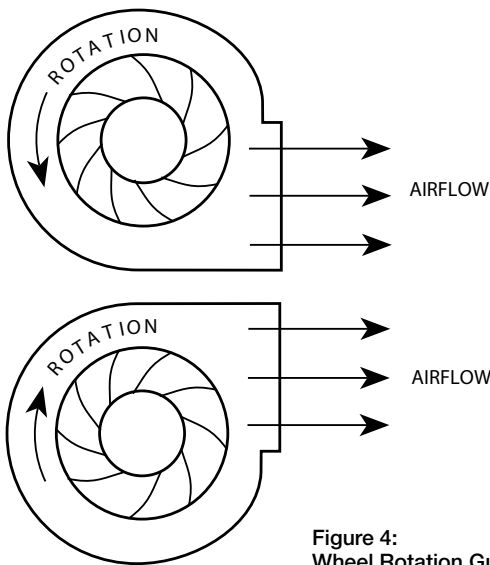

Figure 4:
3. **Wheel Rotation:** Direction of wheel rotation is critical. Check wheel rotation by momentarily energizing the unit. Improper rotation will result in reduced airflow and pressure capabilities. Rotation is always in the same direction as airflow at the outlet. See housing and wheel examples in figure 4.
- Start the fan and shut it off immediately to check rotation of the wheel with directional arrow in the motor compartment, see figure 4.
Unit running backwards	Correct as shown in figure 4.